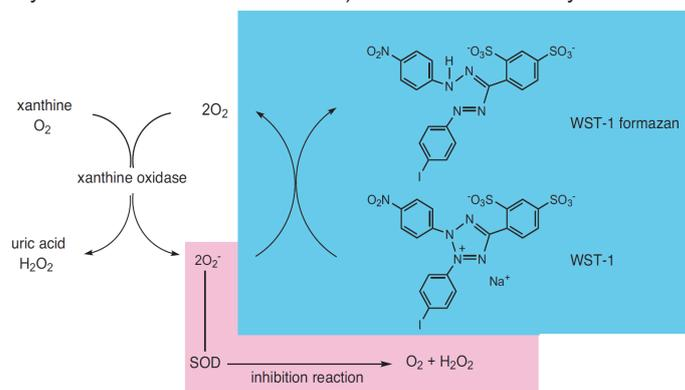

Fig.1 Principle of the determination of SOD activity using SOD Assay Kit - WST
Superoxide dismutase (SOD), which catalyzes the dismutation of the superoxide anion ($O_2^{\cdot -}$) into hydrogen peroxide and molecular oxygen, is one of the most important antioxidative enzymes. In order to determine SOD activity, several direct and indirect methods have been developed. Among these methods, the indirect method using nitroblue tetrazolium (NBT) is commonly used due to the convenience and ease to use. However, there are several disadvantages in the NBT method, such as poor water solubility of the formazan dye and the interaction with the reduced form of xanthine oxidase. SOD Assay Kit-WST allows very convenient SOD assay by utilizing Dojindo's highly water-soluble tetrazolium salt, WST-1 (2-(4-Iodophenyl)- 3-(4-nitrophenyl)-5-(2,4-disulfophenyl)-2H-tetrazolium, monosodium salt) that produces a water-soluble formazan dye upon reduction with the superoxide anion. The rate of the reduction of WST-1 with $O_2^{\cdot -}$ are linearly related to the xanthine oxidase (XO) activity, and this reduction is inhibited by SOD, as shown in Fig. 1. Therefore, the IC_{50} (50% inhibition activity of SOD or SOD-like materials) can be determined by the colorimetric method (Patent filing).